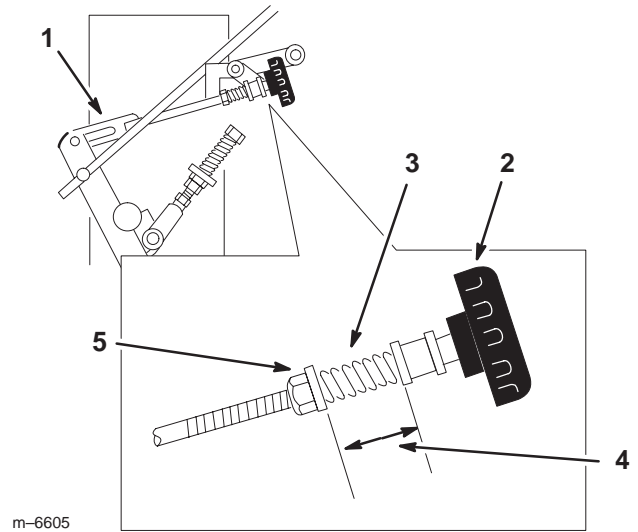

Figure 54
4. Adjust the right side linkage by turning the quick track knob counterclockwise until the tire begins to rotate forward (Fig. 54).
5. Turn the knob clockwise 1/4 of a turn at a time. Then move the speed control forward and back to neutral. Repeat this until right wheel stops rotating forward (Fig. 54).
6. The spring that keeps tension on the knob should normally not need adjustment. However, if adjustment is needed, adjust the length of the spring to 1 inch (26 mm) between the washers (Fig. 54).
7. Adjust spring length by turning the nut at the **front** of the spring (Fig. 54).